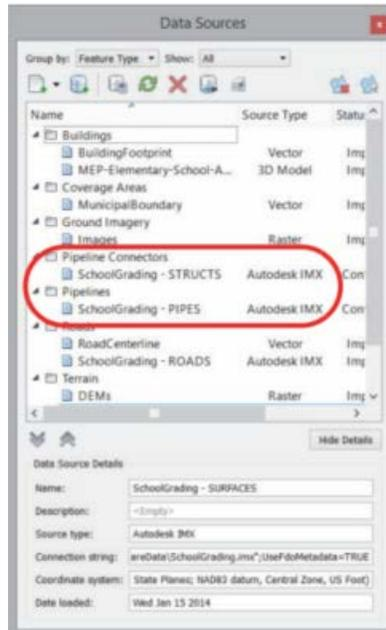

Figure 31
- Pipe Networks:** Pipes from the AutoCAD Civil 3D software become Pipes in the Autodesk InfraWorks software, while structures become Pipe Connectors. Pipes and Pipe Connectors display separately when a pipe network is imported from the AutoCAD Civil 3D software, as shown in Figure 31. When configuring the pipe networks, set the style in the Common tab, in the Data Configuration dialog box.